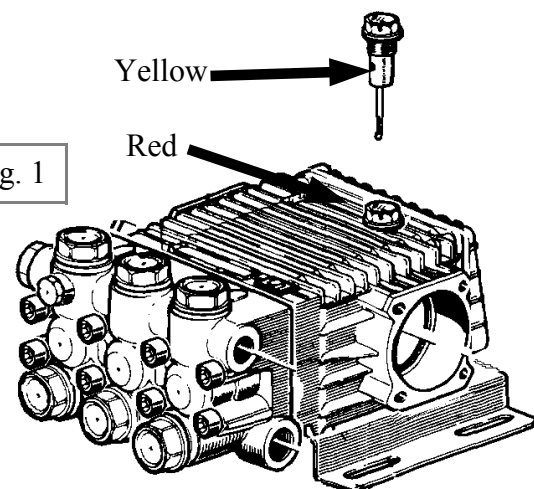

Fig. 1
1. Verify that the vented **YELLOW** dip stick is installed in pressure washer pump. *Remove the RED shipping plug (if present) from top of the pump and replace it with the YELLOW oil level dipstick provided.* Fig. 1